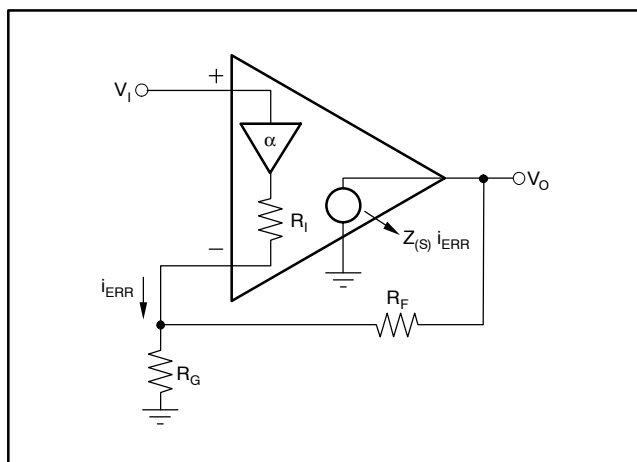

Figure 10. Recommended Feedback Resistor Versus Noise Gain
A current-feedback op amp like the OPA2694 can hold an almost constant bandwidth over signal gain settings with the proper adjustment of the external resistor values. This is shown in the Typical Characteristic curves; the small-signal bandwidth decreases only slightly with increasing gain. Those curves also show that the feedback resistor has been changed for each gain setting. The resistor **values** on the inverting side of the circuit for a current-feedback op amp can be treated as frequency response compensation elements while their **ratios** set the signal gain. Figure 10 shows the small-signal frequency response analysis circuit for the OPA2694.
A current-feedback op amp senses an error current in the inverting node (as opposed to a differential input error voltage for a voltage-feedback op amp) and passes this on to the output through an internal frequency dependent transimpedance gain. The Typical Characteristics show this open-loop transimpedance response. This is analogous to the open-loop voltage gain curve for a voltage-feedback op amp. Developing the transfer function for the circuit of Figure 10 gives Equation (2):